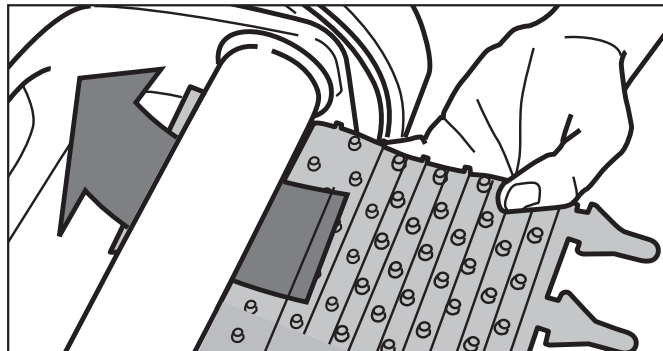

Figure 21. Position the New Brush on Roller
2. Position the new brush underneath the roller with the spikes facing downwards (Figure 21).